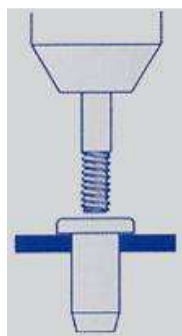

Fig. 1
5. Insert the shank of the riveting tool in the nut. (Fig. 1)